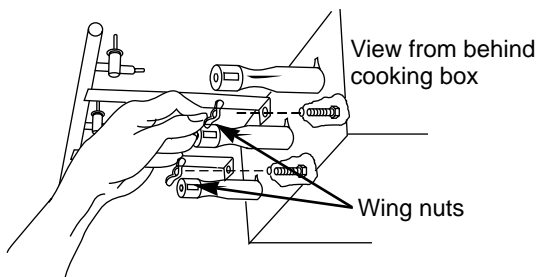

Figure 10
- e) Remove the manifold bracket and unscrew the two wing nuts that hold the manifold to the cooking box. Pull the manifold and valve assembly out of the burners and carefully set it down. Figure 10.